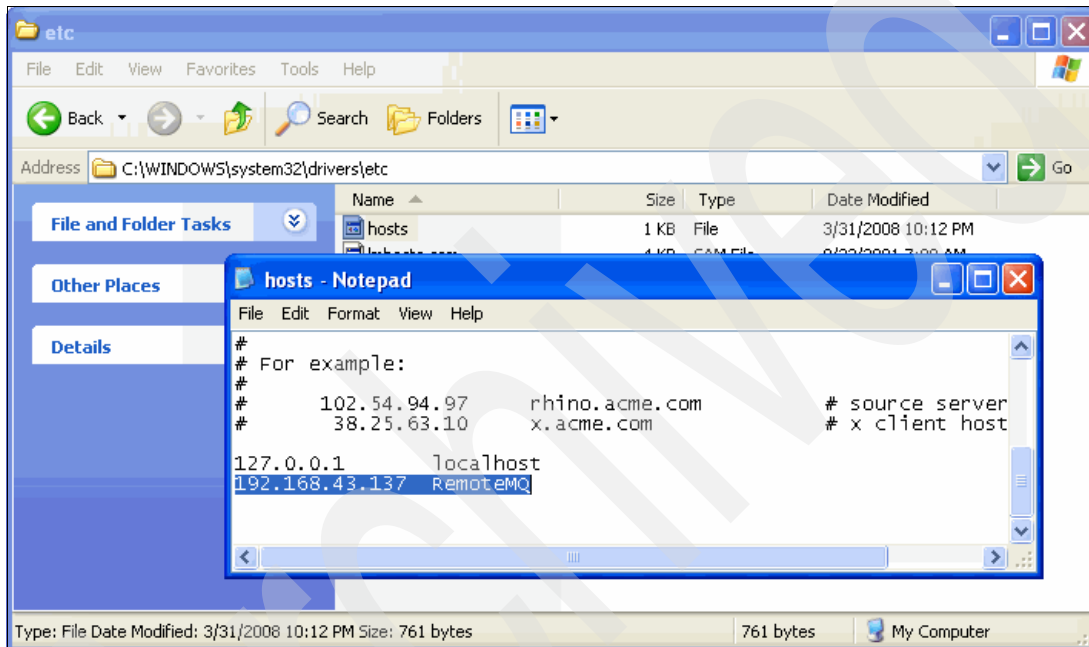

Figure 8-14 Setting the remote WebSphere MQ machine IP and host name
2. Modify the *hosts* file in C:\WINDOWS\system32\drivers\etc\ to add the WebSphere MQ machine IP address (Figure 8-14). By doing this, if the WebSphere MQ machine's IP address changes, we must only modify the hosts file instead of reconfiguring the Event Converter parameters. In this sample, we type RemoteMQ for the host name.